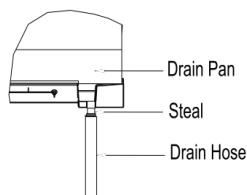

Fig. 21
- (1). For determining the position of the drain hose, perform the following procedures.
- (2). Insert the drain pipe to the drain outlet of the unit and then tighten the clamp securely with tape. (Fig. 21)
- (3). Connect the extension drain pipe to the drain pipe and then tighten the clamp with tape.